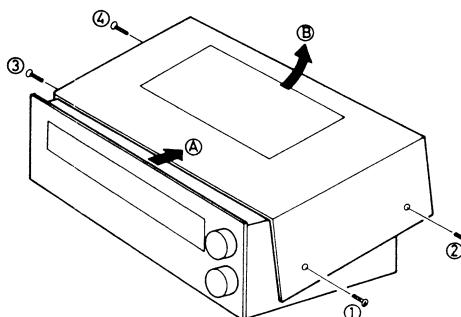

Fig. 7
1. Remove the four cabinet mounting screws (nos 1 ~ 4 screws in fig. 7).
2. Sliding it toward **A** direction and lifting it upward **B** direction as shown in fig. 7.